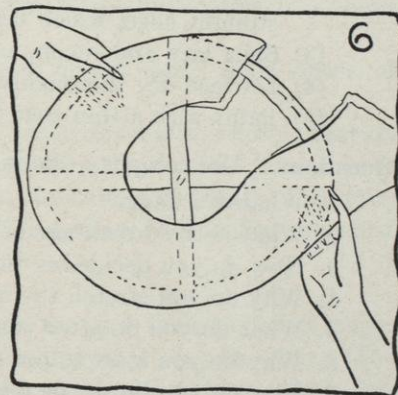

FIG. 6.
- b. Slip the maline off of the wire carefully to avoid stretching it (see Figure 6).